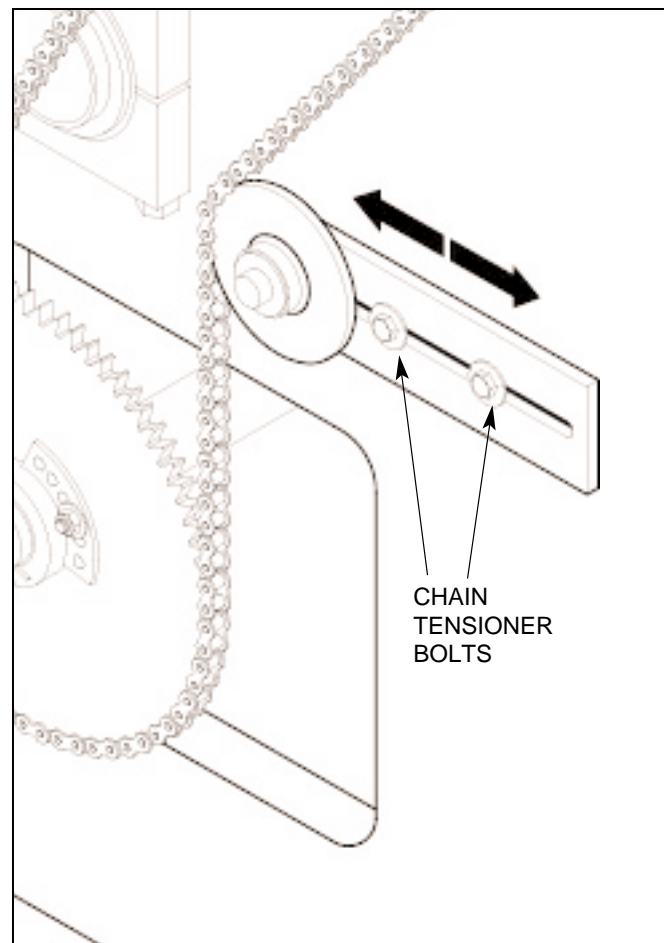

Figure 4.44 LOOSENING CHAIN TENSIONER
4.3.20 Loosen the pallet feeder drive chain tensioner by unscrewing the bolts and loosening the tensioner. Disconnect the drive chain and remove from the feeder sprocket (see figure 4.44).
- 4.3.25 Reconnect the pallet feeder drive chain (change number of links if necessary) and adjust the chain tensioner assembly (see figure 4.44).